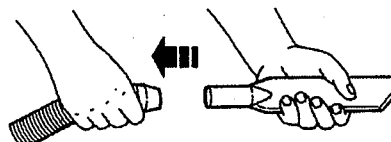

Figure 13b
4. Insert any Attachment directly into the Hose Collar. (See Figure 13b.)